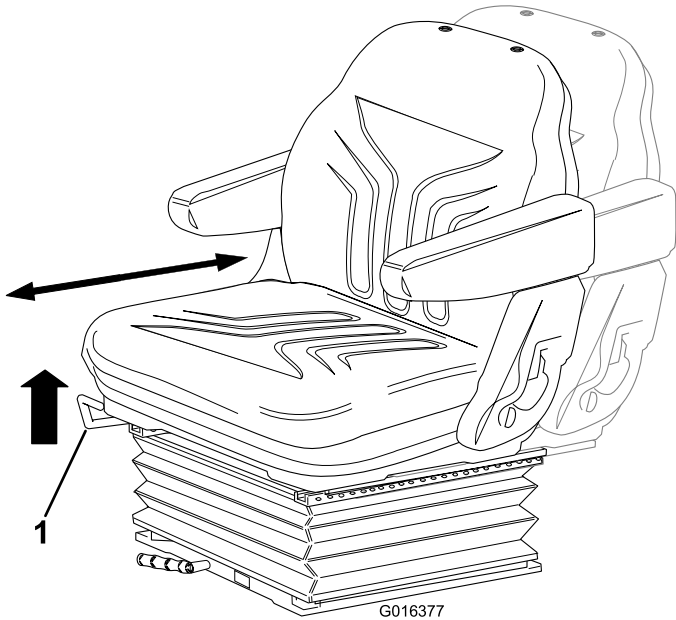

Figure 12
- **Forward/Backward Adjustment:** Move the lever upward to adjust the forward/backward position of the seat. Release the lever to lock the seat in position (Figure 12).